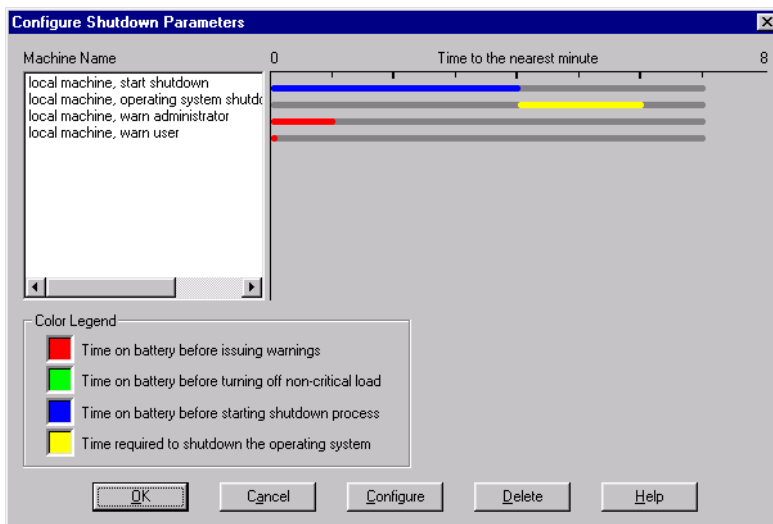

Figure 6-1. Configure Shutdown Parameters screen
6. Select the **OK** button to save the options specified within each of the configuration screens, to close the Configure Shutdown Parameters – Network Clients screen, and to return to the Configure Shutdown Parameters screen (Figure 6-1).
2. Select the **OK** button to save the options specified within each of the configuration screens, to close the Configure Shutdown Parameters – Network Clients screen, and to return to the Configure Shutdown Parameters screen (Figure 6-1).